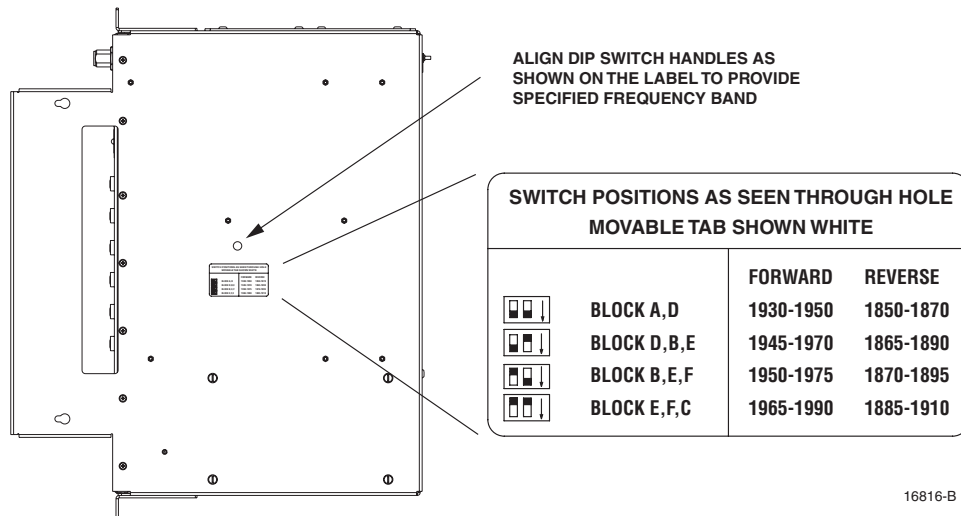

Figure 13. 1900 MHz Frequency Band Selection
2. Orient the DHU as shown in Figure 13 and then locate the small hole in the bottom of the DHU that provides access to the band select DIP switch.
3. Use a non-conductive probe to align the DIP switch sliding handles to provide the required frequency band (see Figure 13).